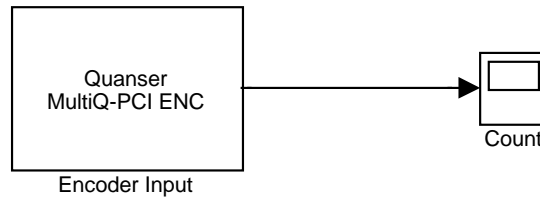

Figure 4: Model for reading the encoder output.
2. Create and build the Simulink model shown in Fig. 4